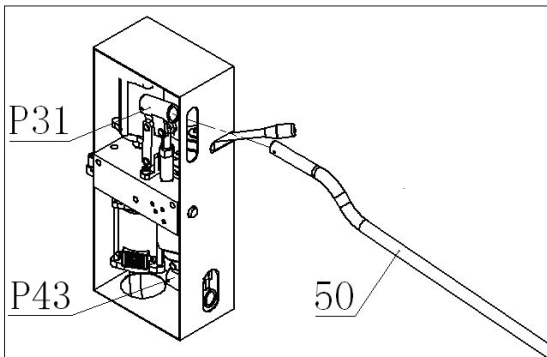

Fig.12
• Operate manually: Insert the handle tube (50) into the handle sockets. 2 handle sockets are provided. The upper one(P31) is for high pressure and low speed; and the lower one(P43) is for low pressure and faster speed. Fig.12.